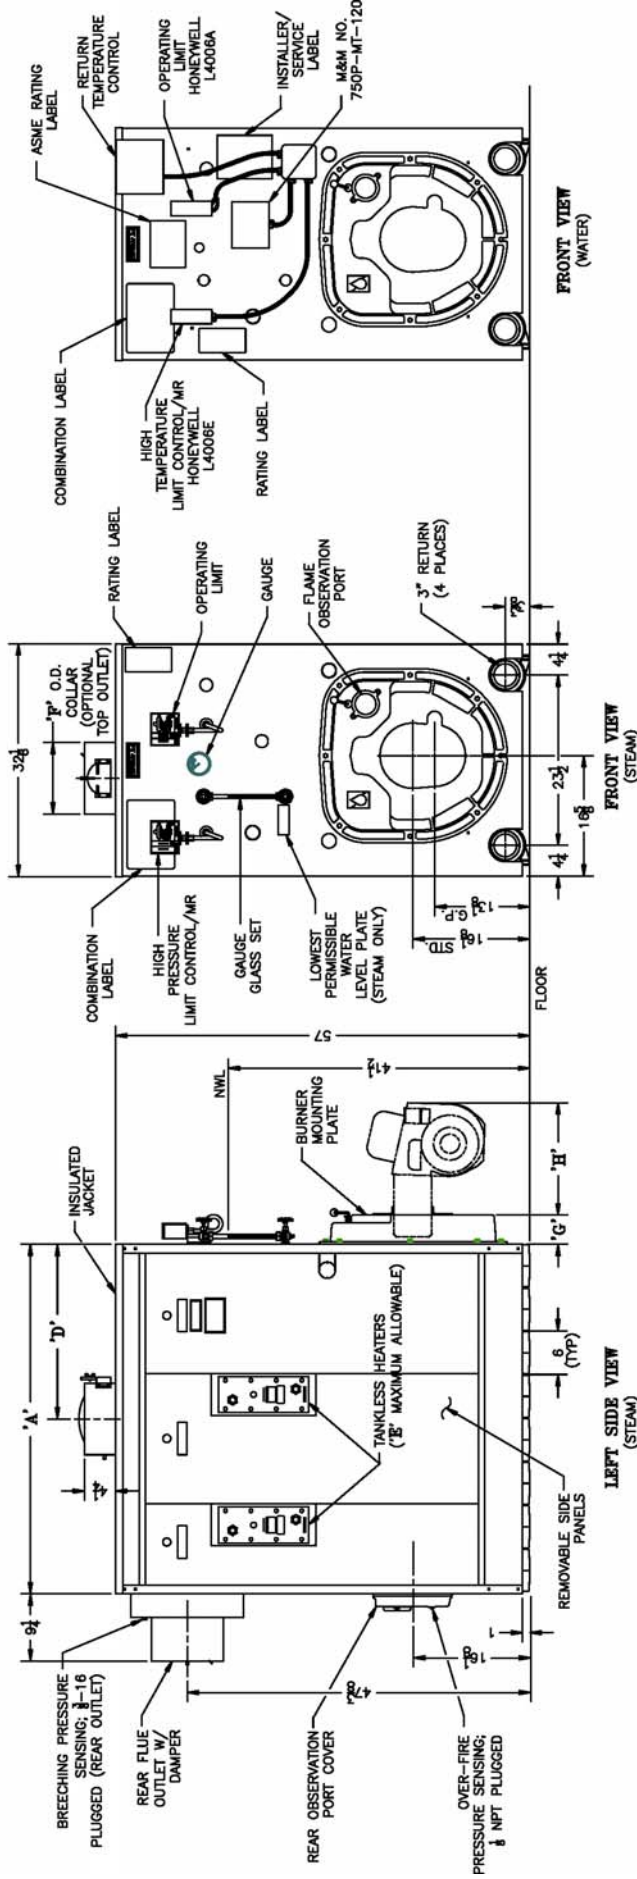
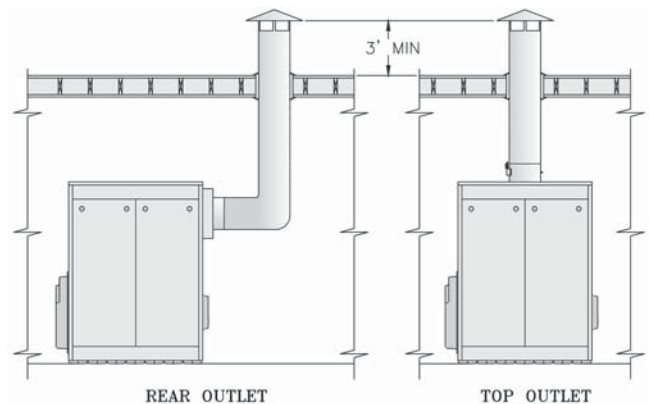

FIGURE 1: Dimensional Information
Figure 3: Typical Arrangement for Stub Vent
- (3) FIREBOX VOLUME DOES NOT INCLUDE ADDED VOLUME OF 8" EXTENDED BURNER MOUNTING PLATE (BMP). IF 8" BMP IS SPECIFIED (REFER TO FIGURE 1), ADD 0.7 CU. FT. TO VOLUME LISTED ABOVE.
- (4) BOILER RATINGS ARE BASED ON 12.5% CO₂ (OIL) AND 9.7% CO₂ (NATURAL GAS), +.10" WATER COLUMN PRESSURE AT BOILER FLUE OUTLET.
1. RECOMMENDED SERVICE CLEARANCE - Locate the unit in the boiler room so as to provide ease of venting and adequate clearance for maintenance, serviceability, and installation of piping. Refer to Figure 1 for boiler dimensional data.
The V9A Series boiler is designed for forced draft firing and may be used with a conventional natural draft stack (15' minimum height) or a stub vent, sometimes called a diesel stack (see Figure 3). See Table 1 for the proper vent outlet size. Draft controls are not normally required, although they may be used on installations where a natural draft stack is used or on multiple boiler installations with a common stack. The boiler is provided with a breeching damper, which should be adjusted to maintain a positive pressure of 0.1" W.C. in the vent connector box during burner high fire operation (see breeching pressure sensing port in Figure 1).
If the venting system is designed for positive or forced draft venting, the boiler, vent connector and stack will operate under positive pressure. Gas tight vent systems designed for pressure systems must be used to prevent flue by-product leakage. The vent height is usually limited to prevent negative draft, typically three (3) feet above the roof line (see Figure 3). The damper shall be adjusted to maintain a positive pressure of 0.1" W.C. in the vent connector box during burner high fire operation (see breeching pressure sensing port in Figure 1).